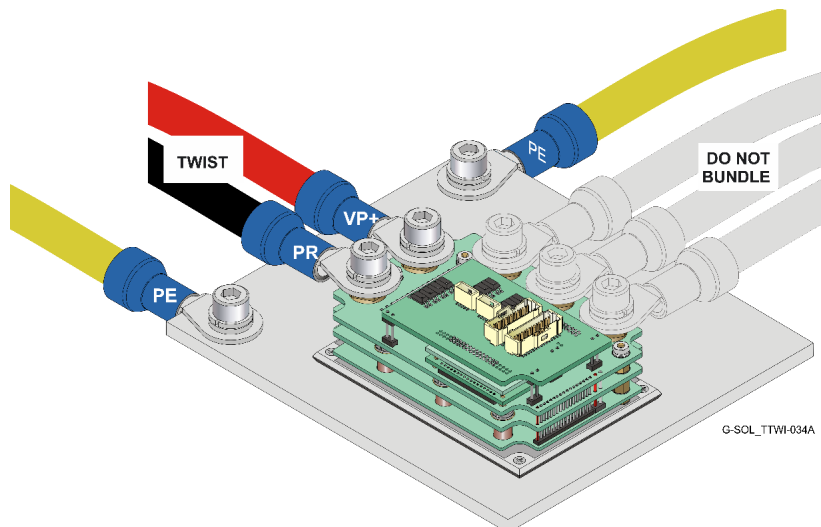

Figure 9: Connecting the Main Power Wires
3. Connect the VP+ and PR wires to the terminals on the servo-drive as shown in Figure 9.